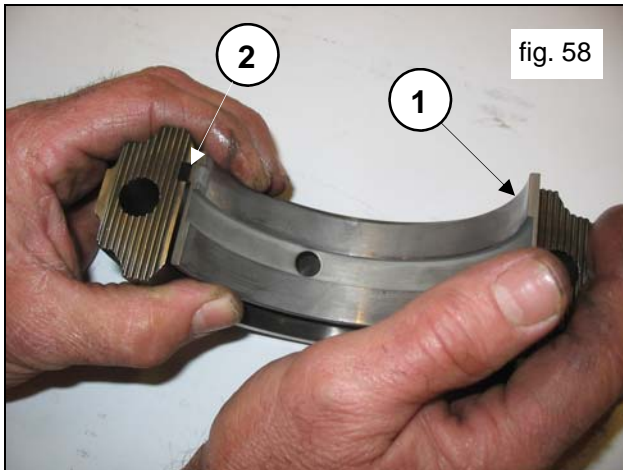

fig. 58
Apply the lower split bearings to the caps, (pos. ①, fig.58) being sure that the split bearings' reference key is positioned in the appropriate seat on the cap (pos. ②, fig.58).